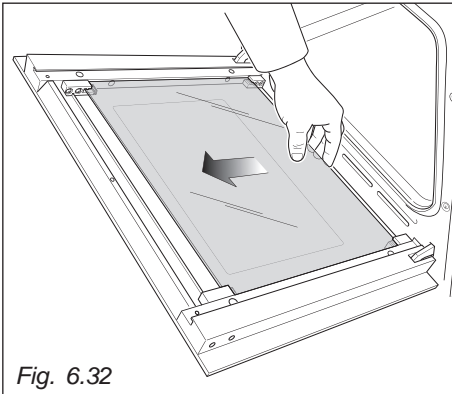

Fig. 6.32
- Gently unlock the middle pane of glass from the bottom clamps by moving it as in fig. 6.32.